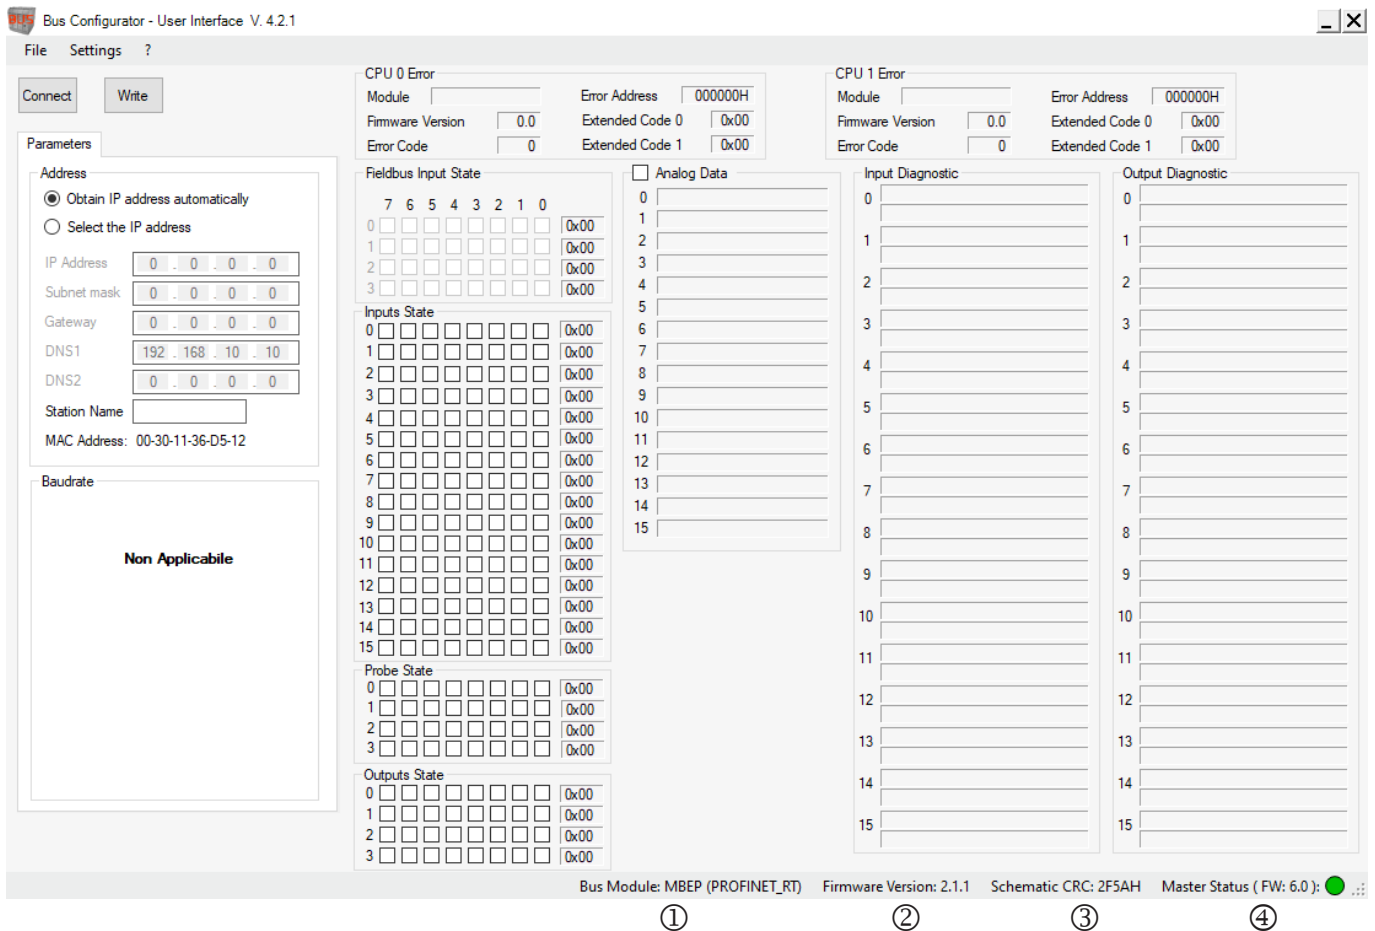

Fig. 13: Bus Configurator – User Interface, Bus Configurator information
The program detects that a fieldbus module is connected (Fig. 13). The status bar shows the fieldbus model ①, the firmware version of the fieldbus module ②, the schematic CRC ③ and the status and firmware version of the base unit ④:
Once the connection to the fieldbus module has been established and the fieldbus module has been detected, the parameters can be configured (see Fig. 13). Transfer the configuration data to the module by clicking the **Write** button.